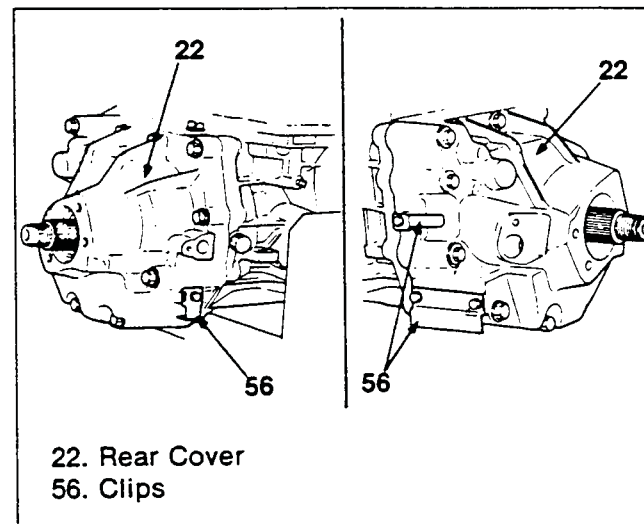

Figure 251. Rear Cover Clip Installation
7. Attach three clips (figure 251).